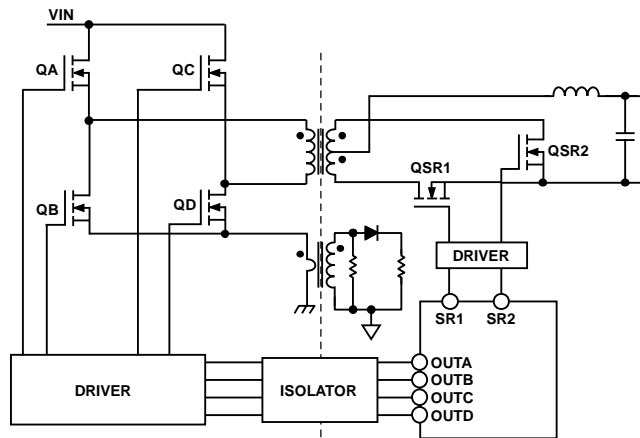
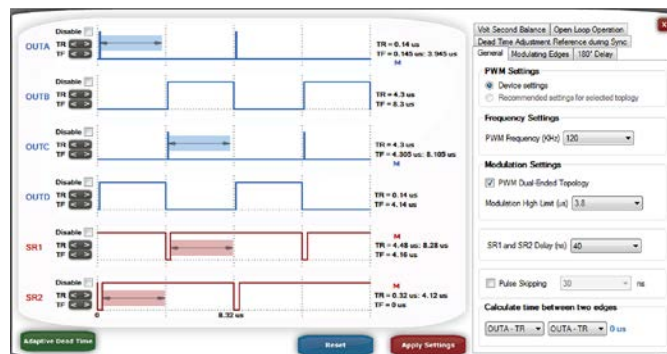
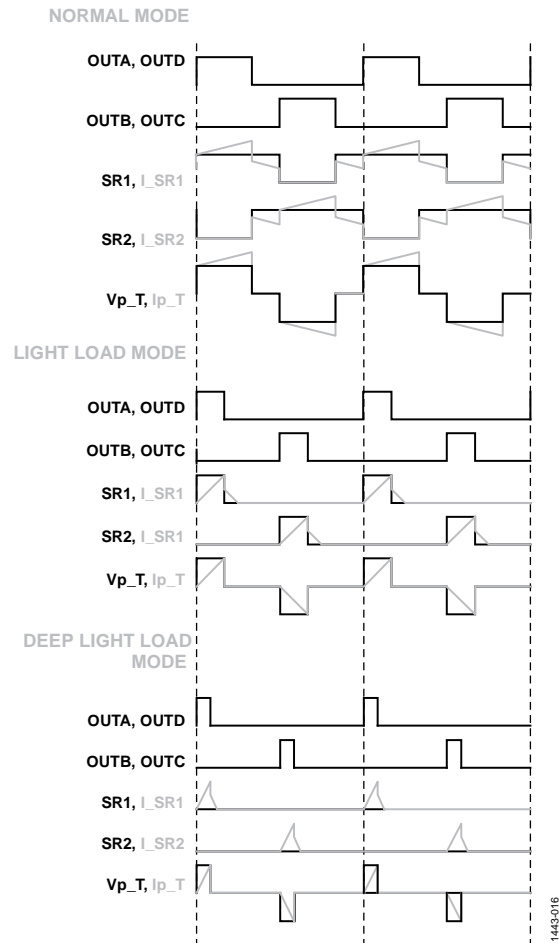

Figure 12. PWM Assignment for Zero-Voltage-Switched Full Bridge Topology with Synchronous Rectification
Figure 13. PWM Settings for Zero-Voltage-Switched Full Bridge Topology with Synchronous Rectification Using the ADP1051 GUI
Figure 16. Light Load Mode and Deep Light Load Mode
The PWM outputs are used for control of the primary side drivers and the synchronous rectifier drivers. They can be used for several topologies, such as hard-switched full bridge, zero-voltage-switched full bridge, phase shifted full bridge, half bridge, push pull, two-switch forward, active clamp forward, interleaved buck, and others. Delays between rising and falling edges can be individually programmed. Special care must be taken to avoid shootthrough and cross conduction. It is recommended that the ADP1051 GUI software be used to program these outputs. Figure 12 shows an example configuration to drive a zero-voltage-switched full bridge topology with synchronous rectification. The QA, QB, QC, QD, QSR1, and QSR2 switches are driven separately by the PWM outputs (OUTA, OUTB, OUTC, OUTD, SR1, and SR2). Figure 13 shows an example of PWM settings for the power stage shown in Figure 12.
Figure 16 shows the operation timing of a hard-switched full bridge converter. When the CS2 current (output current) drops across the light load mode threshold programmed by Register 0xFE19[3:0], the SR1 and SR2 PWM signals switch from complementary mode (normal mode) to in-phase mode (light load mode), as shown in Figure 16.
- In a hard-switched full bridge topology having the same power stage shown in Figure 12, if QA to QD are driven by OUTA to OUTD separately, program the SR1 output in complement with OUTB and OUTC in normal mode, and program the SR2 output in complement with OUTA and OUTD, as shown in Figure 16. In this case, the OUTA to OUTD outputs are all modulated.
- In a zero-voltage-switched full bridge topology having the same power stage shown in Figure 12 and the PWM settings shown in Figure 13, SR1 is in complement with OUTC and SR2 is in complement with OUTA in normal mode. In light load mode, SR1 is in phase with OUTA, and SR2 is in phase with OUTC.